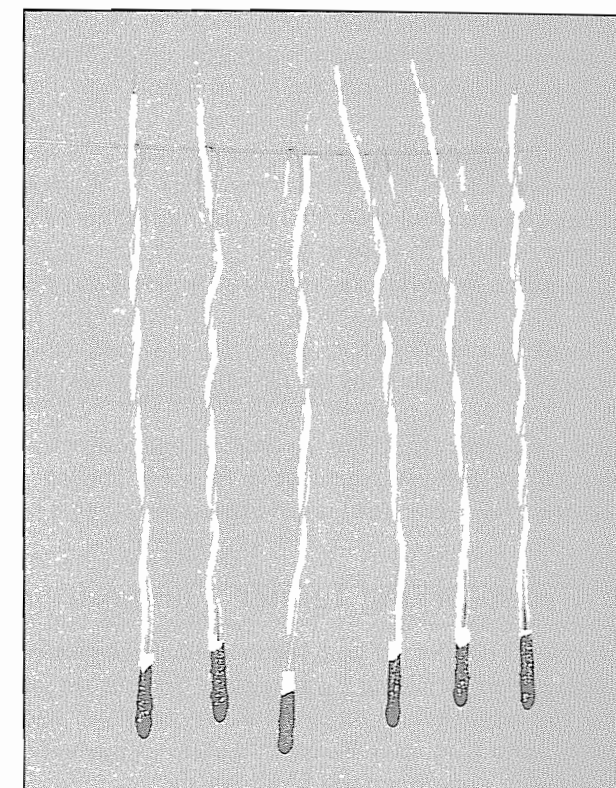

Figure 17-9. Half a dozen high-heat igniters hung up to dry. Eight hours in a warm, dry room is usually sufficient.
3. Bend the end of one lead wire into a hook, and hang the igniter up to dry. If you stretch a long wire between two supports, you can hang the igniters side by side, all in a row (*Figure 17-9*).